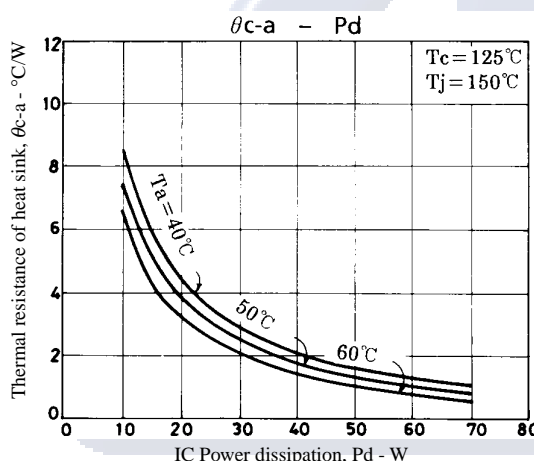

Figure 3. STK4182II $\theta_{c-a} - P_d$
Figure 3 shows the relation between P_d and θ_{c-a} given from (1) and (3) with T_a as a parameter.
The thermal resistance of a heat sink is obtained from Figure 3.